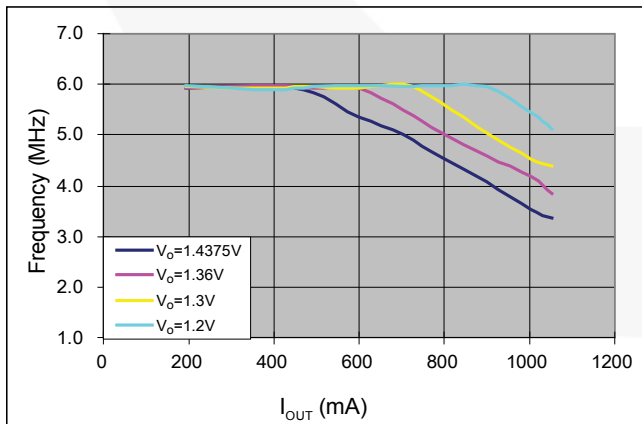

Figure 14. Effect of $t_{OFF(MIN)}$ on Reducing the PWM Switching Frequency, $V_{IN}=2.3V$
11. Limited by the effect of t_{OFF} minimum (see Figure 14 in Typical Performance Characteristics).